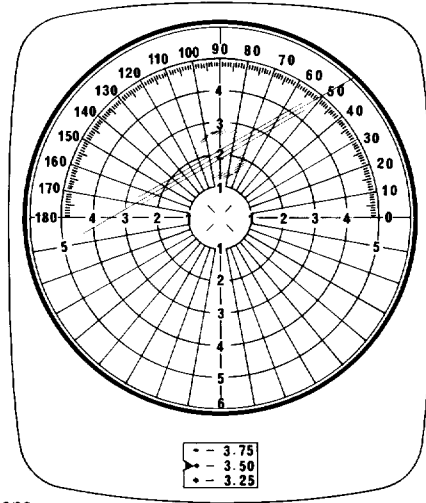

Fig. 11
- It would be convenient to read astigmatic axis by the target rotation wheel (10) and prism base direction by the radial lines on the screen. (Fig. 11)
Example of Fig. 11: S -2.50 D C -1.00 D